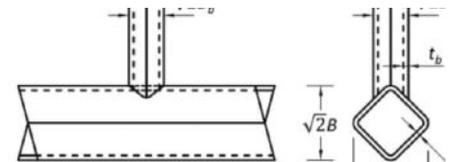

Fig. 8. Diamond-bird-beak (DBB) HSS connection
- **Chord and branch rotated 45°:** Known as a diamond-bird-beak (DBB) connection (Figure 8), this is generally a stronger connection than non-rotated squares or equivalent round HSS. T- and cross-joints in this configuration behave similarly to round HSS, so round HSS equations can be adapted. There is design guidance out there for gapped K-joints, but it is limited to branch angles of 45°.